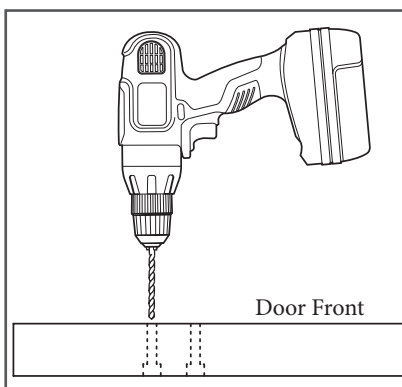

Figure 5
6. Turn the door over, returning it to the face-up position. Drill all the way through the pilot holes using a drill with a 3/8" drill bit (Figure 5).